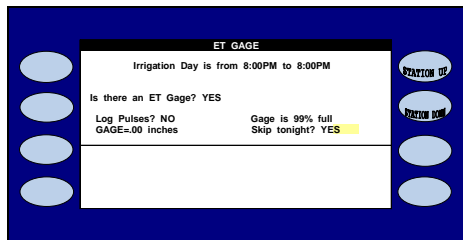

Figure 5.9
12. Press the blue **ARROW** keys to move the cursor to the **SKIP TONIGHT?** (Figure 5.9).